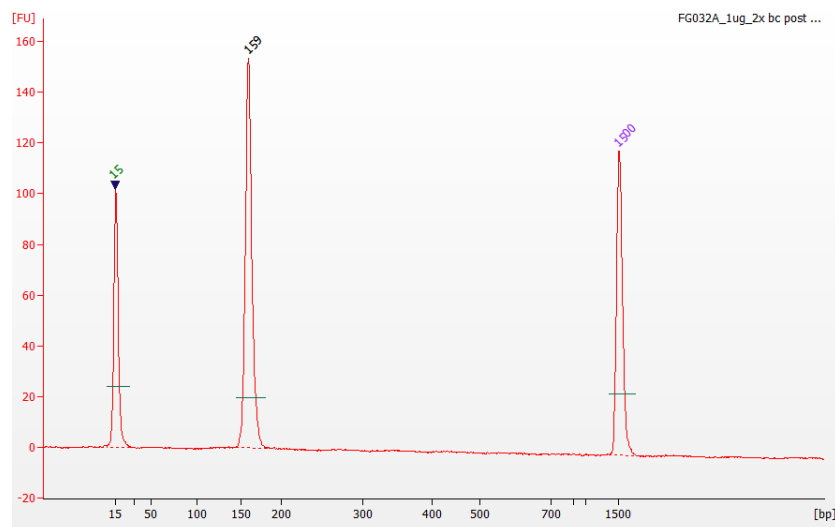

Figure 4. Final QC of PAGE-purified pooled miRNA libraries.
- 13.2. Check the Agilent profile for the correct size fraction. The expected product of 155bp runs on Agilent Bioanalyzer at ~159bp on DNA 1000 (Figure 4). Discuss your results with your APC.